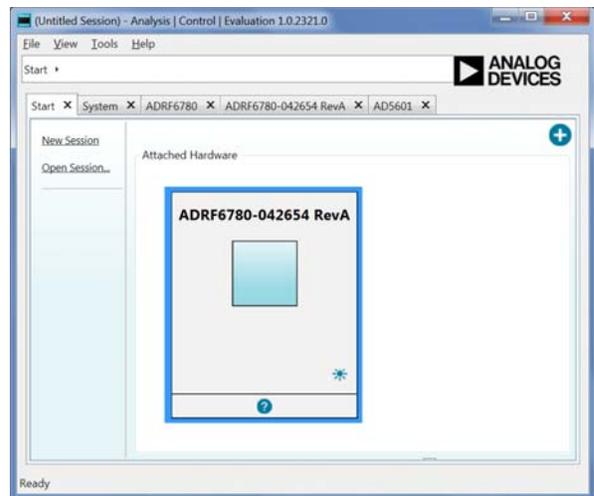

Figure 8. Attached Hardware Section when the ADRF6780-042654, Rev. A (ADRF6780-EVALZ) Is Connected
3. Open the ACE software. The ADRF6780-042654, Rev. A (ADRF6780-EVALZ) appears in the Attached Hardware section (see Figure 8). Double-click on the evaluation board plugin. If the device is turned off and on, or if the USB cable is unplugged and plugged in, while the ACE software is open, you may lose contact with the ADRF6780-EVALZ. If this happens, click the **System** tab, then click the **USB** symbol on the ADRF6780-042654, Rev. A subsystem, and then click **Acquire** to talk to the ADRF6780-EVALZ again.